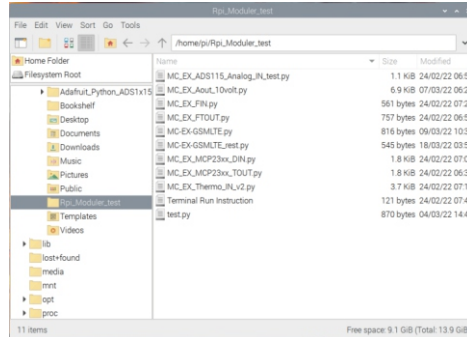

Figure 14: The example programs for expansion modules.
4. Select the example program that matches with the expansion module shown in Figure 14.